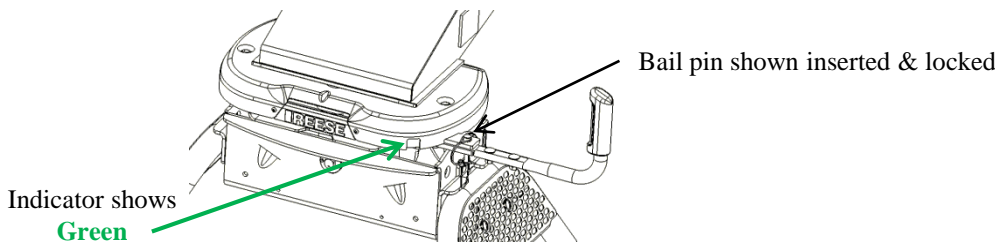

FIG. 14
- 4) Insert bail pin into lock hole, as shown in figure 14.